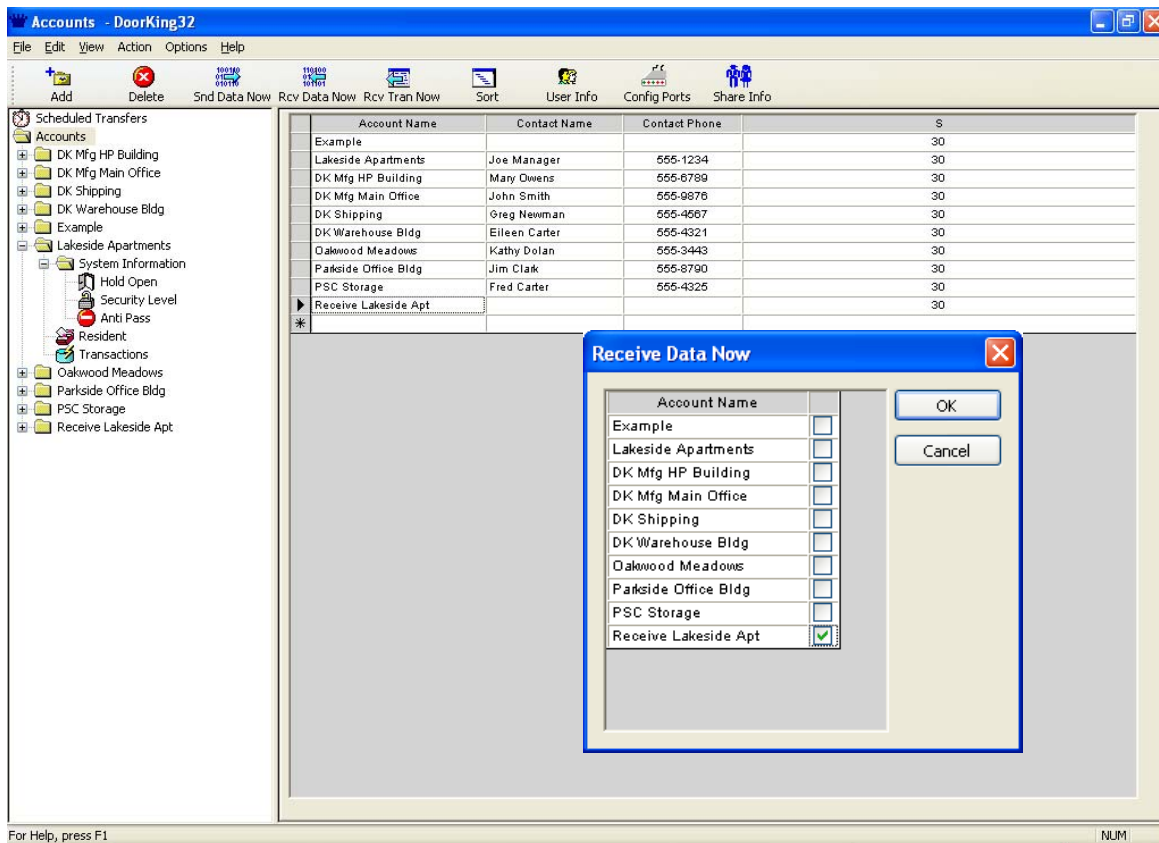

Figure 55
1. Click the REC DATA NOW button and select the account that you want to receive data into, then click OK (Fig 55). A window will appear warning you that existing account information will be overwritten and will give you the option to continue or abort. If you have not created a new "receive data" account, we suggest that you do so before continuing, otherwise click the YES button.